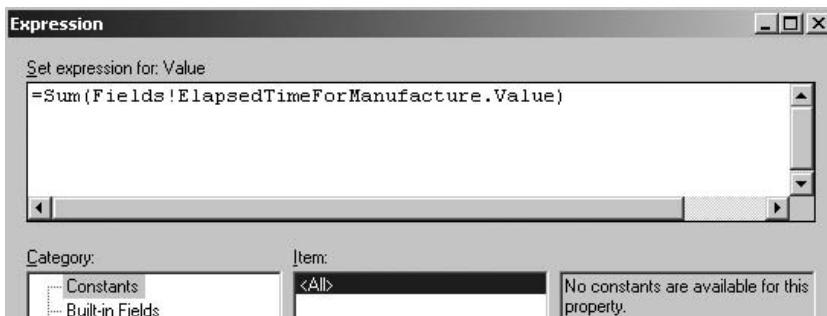

Figure 16-15 The database field expression with an aggregate function for a group header cell
48. Right-click the group header cell in the Elapsed Time For Manufacture column. Select Expression from the context menu. The Expression dialog box again appears, this time with the Sum aggregate function around the field expression, as shown in Figure 16-15. Click Cancel to exit the Expression dialog box. Again, we see the placeholder “[Sum(ElapsedTimeForManufacture)]” in the tablix cell rather than the complete expression.